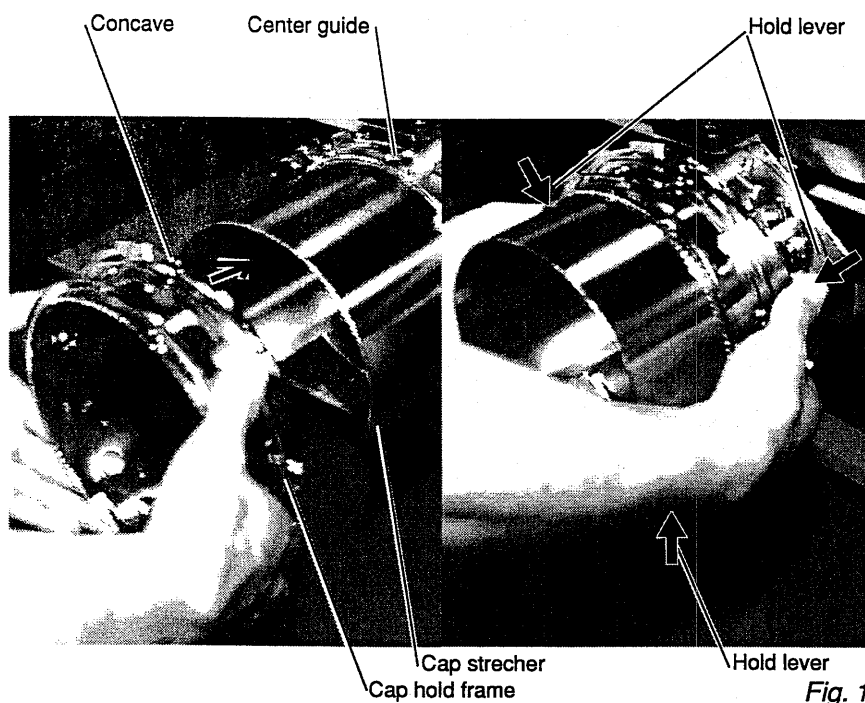

Fig. 1
- 2 As shown in Fig. 1, hold cap hold frame with both hands and place on cap stretcher. By pushing hold lever at 3 places in arrow marks with fingers, place cap hold frame so that center guide of cap stretcher gets in concave of upper cap hold frame.